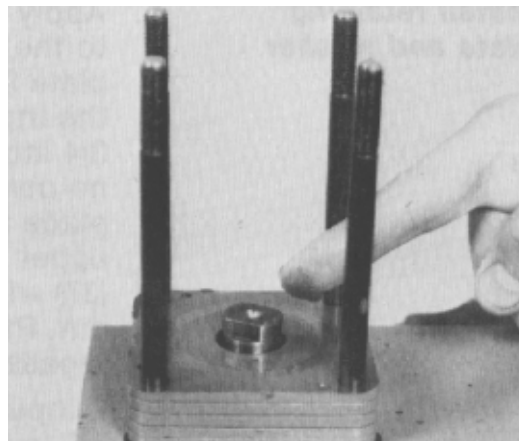

Figure 88
8. Apply clean multi-purpose grease to the face of the upper cover plate, input shaft and face seal (Fig. 88).